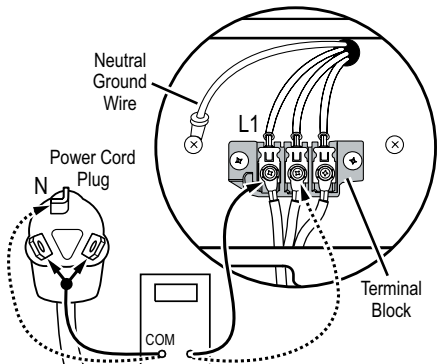

Figure 3. Plug-to-terminal connections.
3. With an ohmmeter, check for continuity between the neutral (N) terminal of the plug and the center contact on the terminal block. See Figure 3.
4. In a similar way, check which terminal of the plug is connected to the left-most contact on the terminal block and make a note of it. This will be L1 (black wire) in the wiring diagram. See Figure 3.